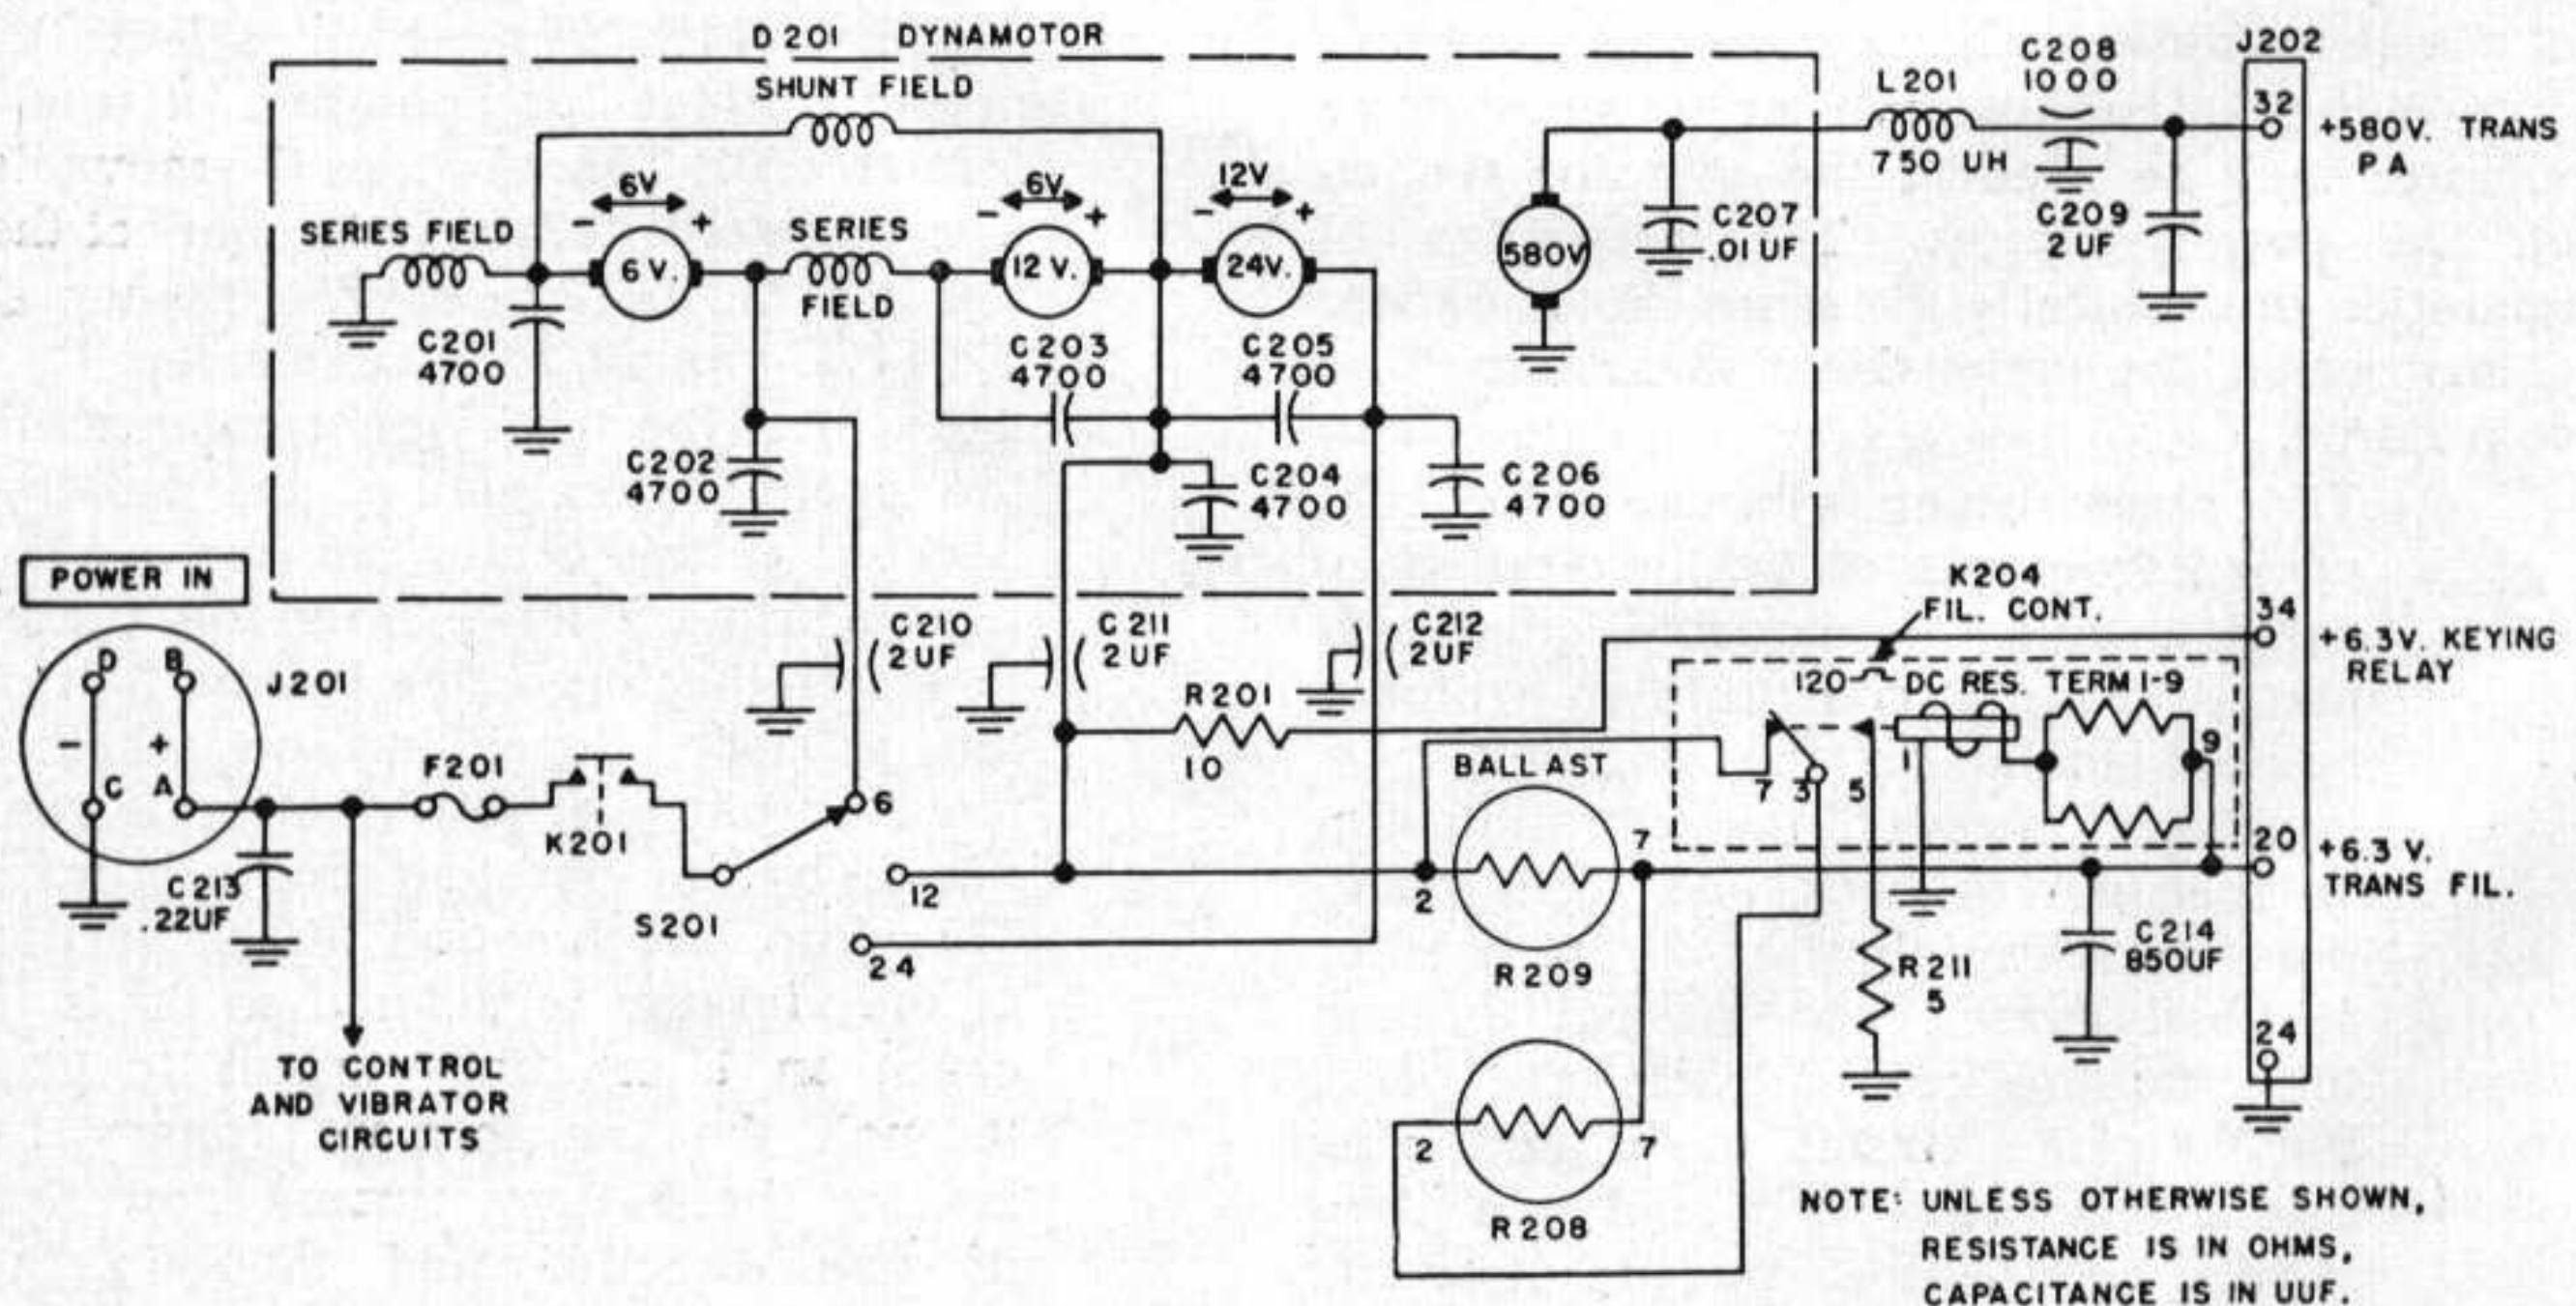

Figure 86. Dynamotor-Power Supply DY-88/GRC-9-GY, dynamotor circuits.
b. DYNAMOTOR START CIRCUIT. Battery power is applied to the dynamotor through DYN FUSE F201, the closed contacts of dynamotor start relay K201, and voltage selector switch S201 (fig. 86). Voltage selector switches S201 and S202A permit operation from a 6-, 12-, or 24-volt battery.
d. The h-v output from the dynamotor is fed through terminal 32 of J202 and is applied to the p-a plate when control **E** is turned to the SEND position (fig. 86). No p-a plate current flows until keying relay K101 is energized and contacts 9 and 10 close to apply high voltage to the p-a screen (figs. 80 and 81).
111. Transmitter Filament and Keying Relay Supply (fig. 86).
c. All armatures have a common field, so that any non-driving armature acts as a generator. Thus when S201 (fig. 86) is in the